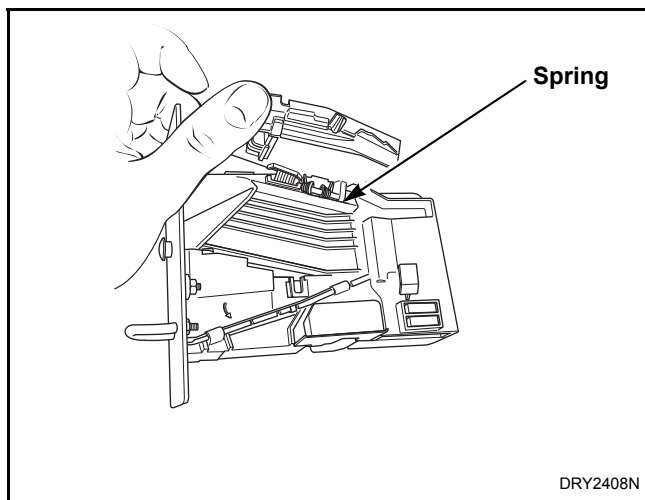

Figure 20
- (3) Open cover of coin drop. Refer to *Figure 20*.